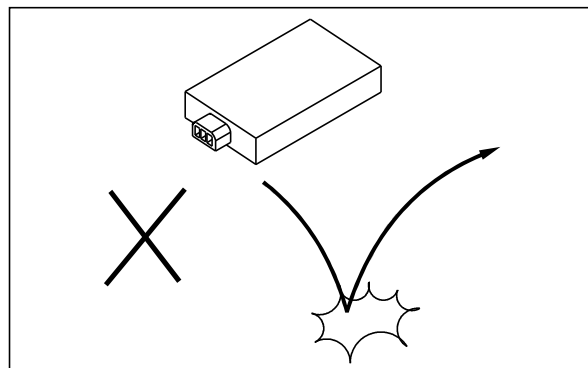

Fig. 5.4
- Be careful not to drop the parts with a semiconductor built in such as TCI unit, regulator cum rectifier and others. (Fig. 5.4)